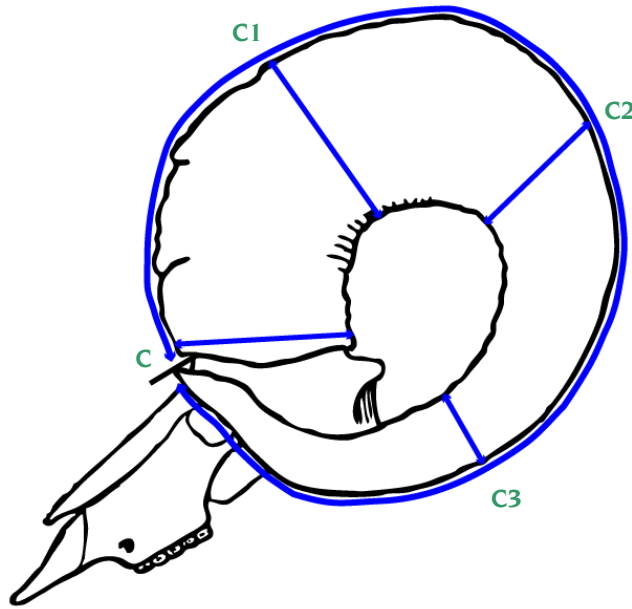

Figure 6
2. Circumference. Take the length of the longest horn and divide it into quarters (25%). (Figure 6) Record the intervals of the longest horn on the score sheet table in the “Quarter Longest Horn” column. Starting at the base and using a pencil (or pieces of masking tape), mark both horns at the same intervals all the way to the 3rd quarter. Measure the circumference of each horn at the base (C), the first quarter (C1), the second quarter (C2), and the third quarter (C3). These measurements are to be made at a 90-degree angle to the axis of the horn including the base (C). Do not use a tape with a 90-degree hook on the end; instead, use a steel tape with a ring on the end because only a tape that will lie flat completely will give an accurate measurement of the circumference. If you have no steel tape without a hook, make a loop on a hooked-steel tape and start at the 10-inch mark and deduct 10 inches from the measurement.
The base measurement is challenging; it must be taken at a 90-degree angle to the axis of the horn, (do not follow the contours of the waving horn edge) the inside of the tape must touch horn material at all times, and no air gaps on the edges of the horn may be bridged. (Figure 6 and 7)